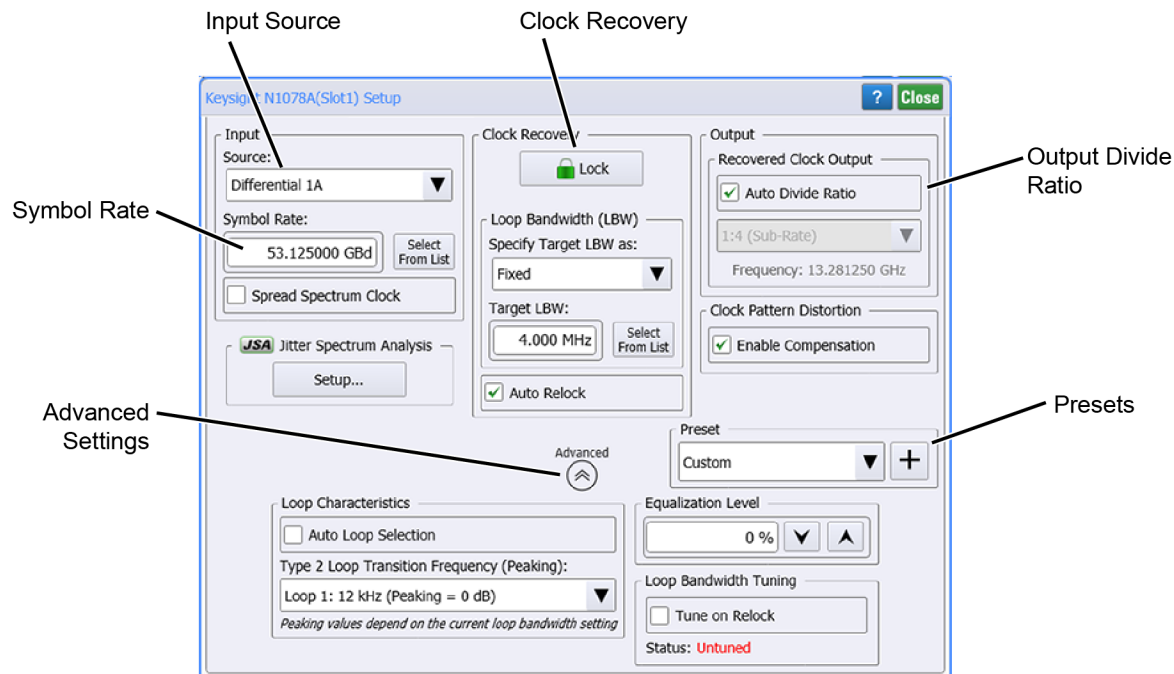

Figure 25. Clock Recovery Setup Dialog Box
4. Click **Setup > Modules > (Slot 6): Clock Recovery**. The dialog box shown Figure 25 is displayed.